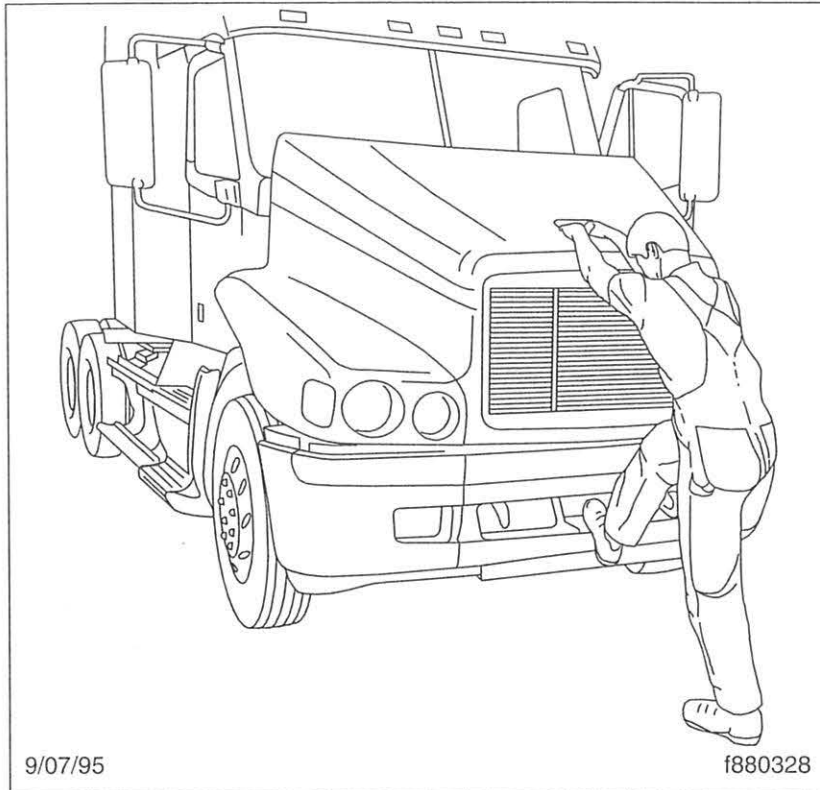

Fig. 3.8, Hood Tilting
3. Using the bumper step and grab handle, slowly tilt the hood until the straps support it. See **Fig. 3.8**.
2. As the hood goes over center, use the bumper step and grab handle to control the rate of descent to the operating position. See **Fig. 3.8**.